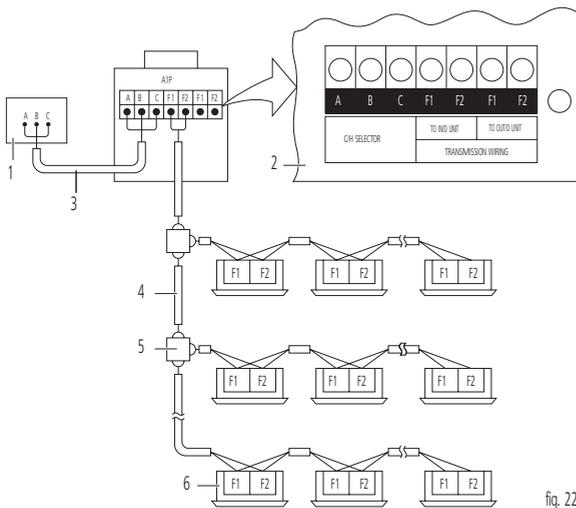

fig. 22
- For the wiring shown in figure 22, be sure to use 0.75-1.25 mm² vinyl cords with sheath or cables (two-core). (Three-core cables can be used only for the cool/heat selector.) (Insulated thickness: 1mm or more)
- The wires shown in figure 22 are field supply.